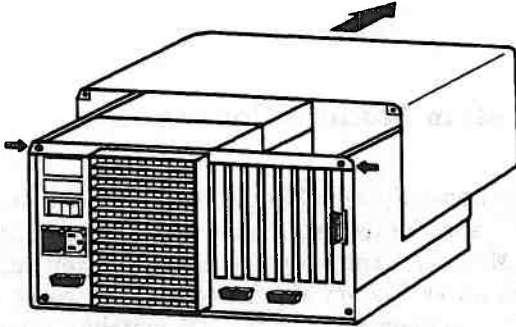

Figure 3-2. Removal of the Upper System Module Cover
1. Loosen the two screws that secure the upper cover (Figure 3-2).
2. Slide the Upper Cover forward approximately 0.5 inch and lift it from the System Module (Figure 3-2).